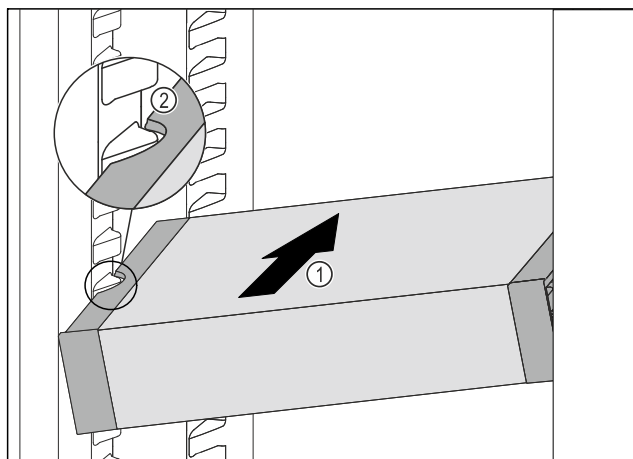

Fig. 170
- Insert the VarioSafe into the fridge section at an angle Fig. 170 (1) until the recesses in the side Fig. 170 (2) of the VarioSafe are at the level of the support rib in the fridge section.